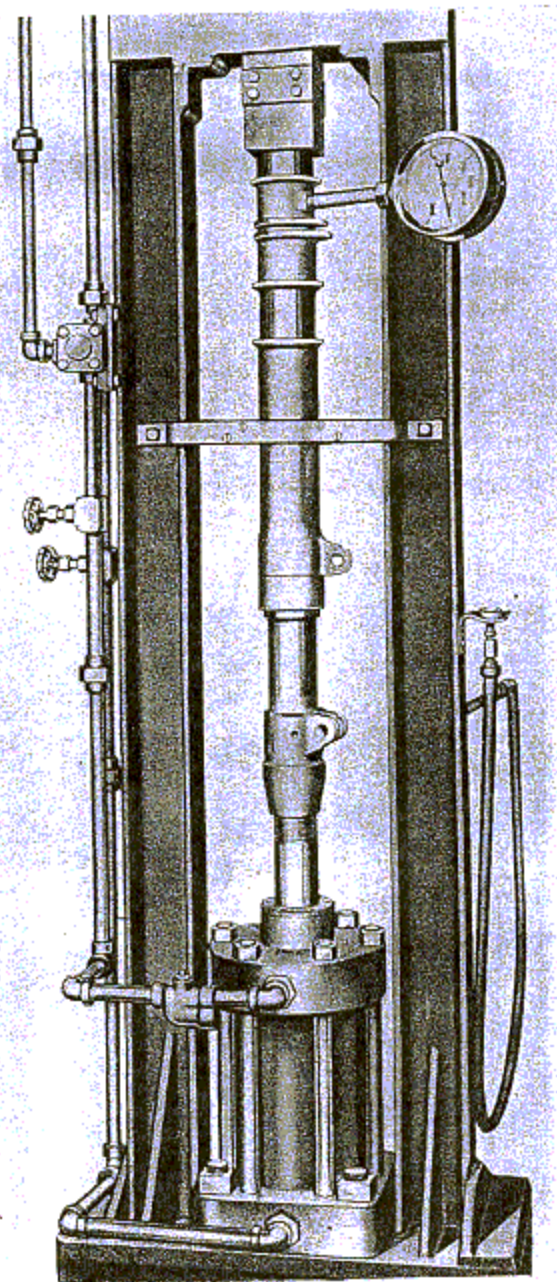

Figure 125—Pressure Test of Oleo Strut
1. Lay the strut down on a bench horizontally with the Schrader plug up. Remove the plug and fill the cylinder with hydraulic fluid, AAF Specification 3586, while extending the piston, until oil flows over the plug hole. Screw a pressure gage into the plug hole and insert the strut in a vertical press. Apply a pressure of 2800 pounds per square inch and allow the strut to remain under this pressure for 10 minutes. Inspect the oleo strut for leaks, especially around the solder joint, packing gland nut, and metering pin. (See figure 125.)